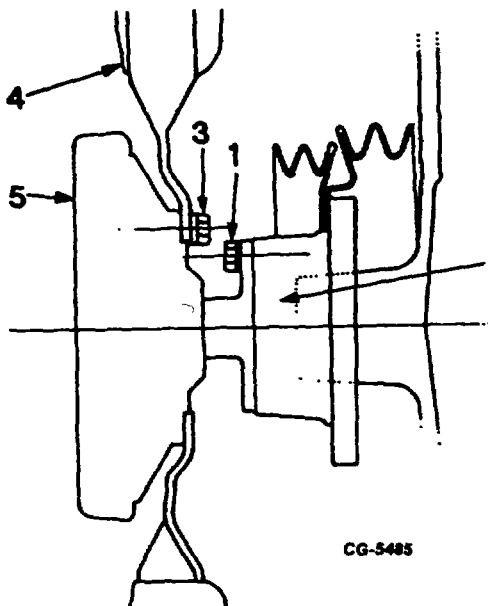

Figure 147. Modulated Fan Drive and Fan Removal
3. Remove modulated fan drive and fan assembly from the fan pulley hub by removing four bolts and lockwashers. Remove modulated fan drive and fan assembly (Figure 147). The fan may be removed from the modulated fan drive by removing four bolts and lockwashers (Figure 147).